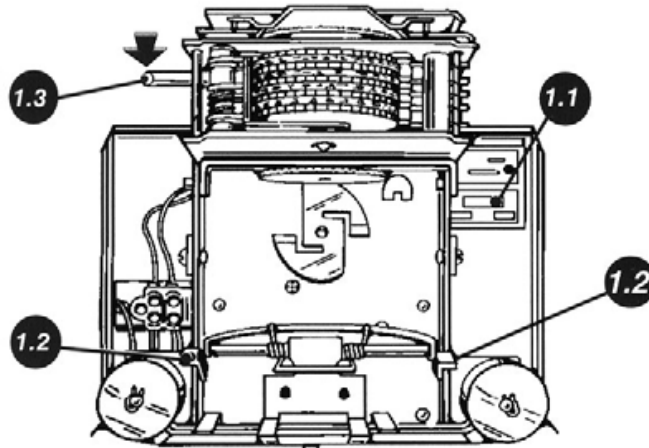

Figure 1
3. Press either side of the **Type Section Headlock – 1.2** and pull upward on the lower part of the Clock Face until the Type Section locks in the up position as shown in **Figure 1**. Note position of the Overthrow Lever and the Setting Wheel.